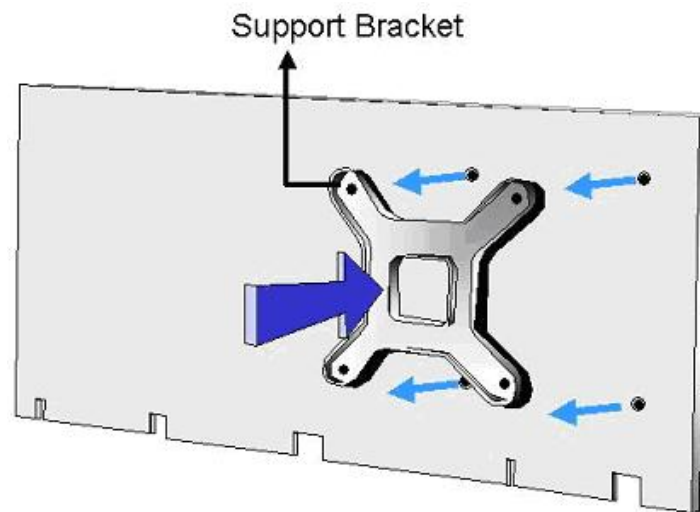

Figure 5-4: Cooling Kit Support Bracket
- Step 3:** Secure the cooling kit. From the solder side of the PCB, align the support bracket to the screw threads on heat sink that were inserted through the PCB holes. (See **Figure 5-4**)